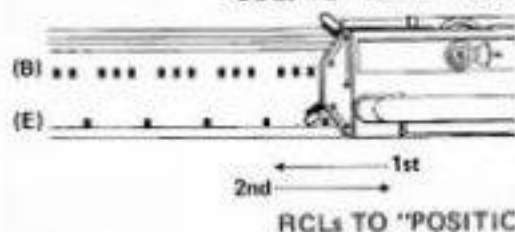

Fig.81
- (b) With carriage on right, thread M.C. through the carriage feeder. Using 3 x 1 selector plate bring forward into position (E) from position (B) every 4th needle starting with 4th needle from right end. (Fig. 81)